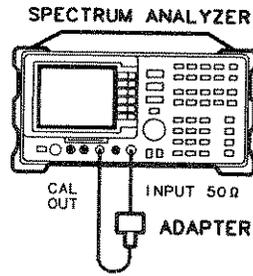

Figure 4-13. Resolution Bandwidth Switching Uncertainty Test Setup
1. Connect the CAL OUT to the spectrum analyzer input using the BNC cable and adapter, as shown in Figure 4-13. *Option 026:* Use the BNC to SMA and 3.5 mm adapters to connect the cable to the analyzer input.